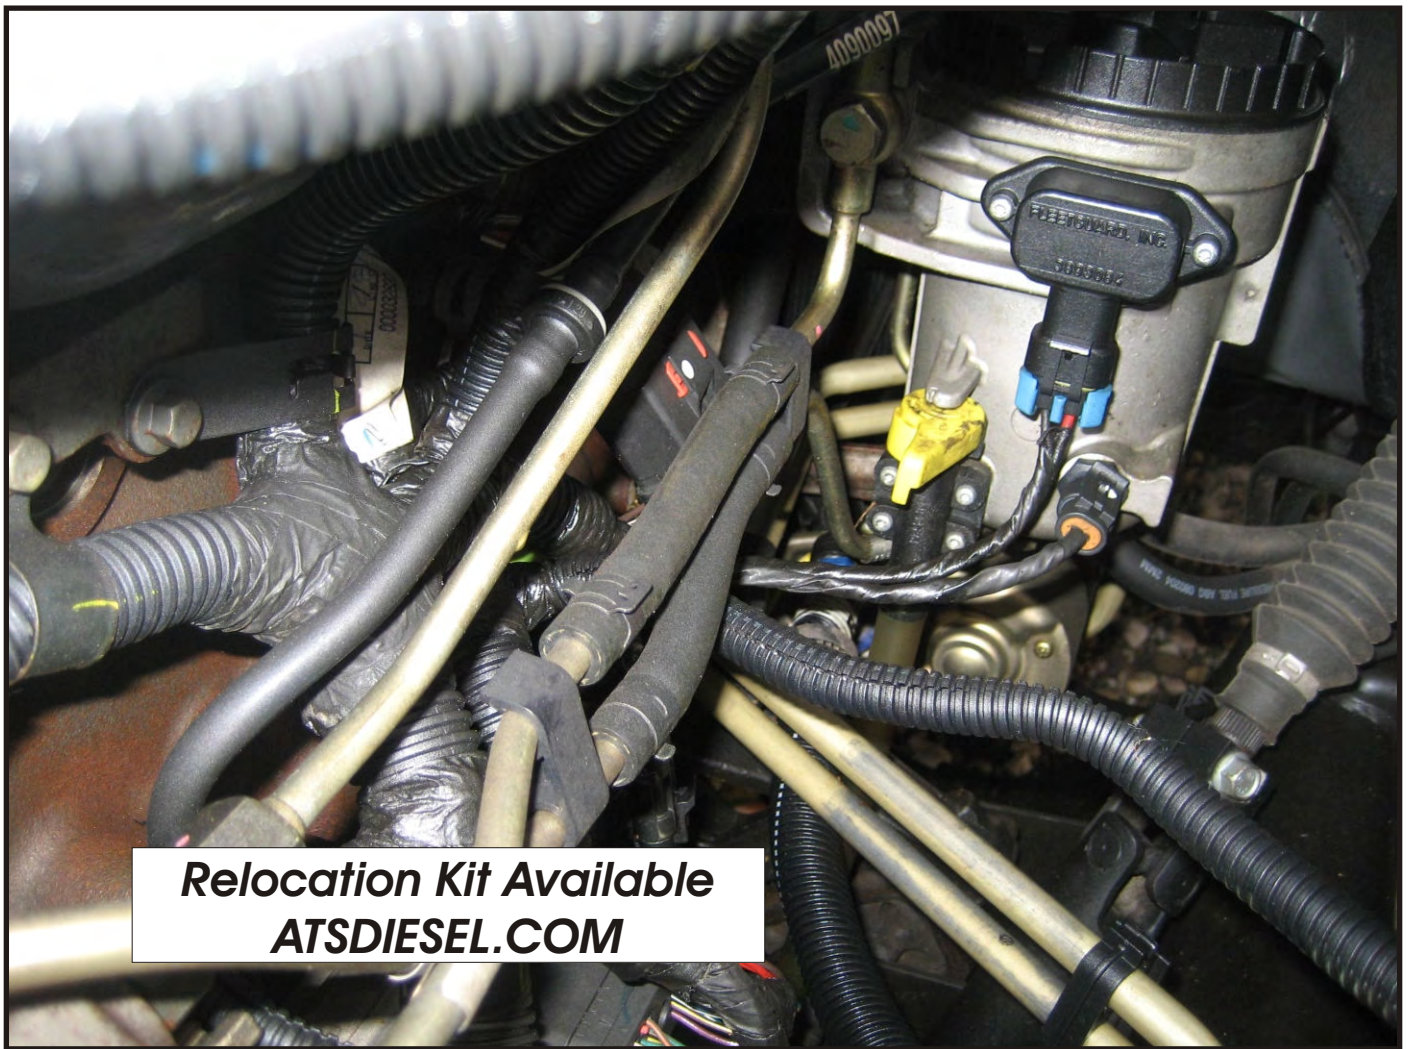

Figure 5
- (3) Lift Pump Interference (Diesel Only) (Figure 5).
Relocate Lift Pump farther away from ECM (Figure 5).